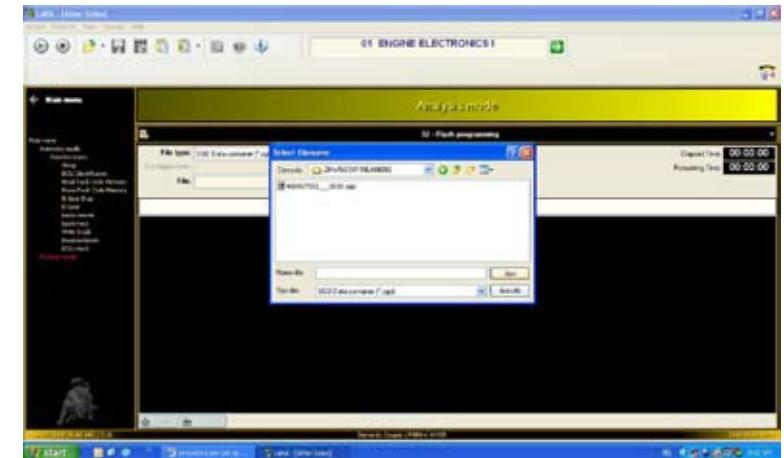

Fig.109
7. Open the VIN folder of the vehicle you wish to reflash (Fig.109) to find the vehicle software file.